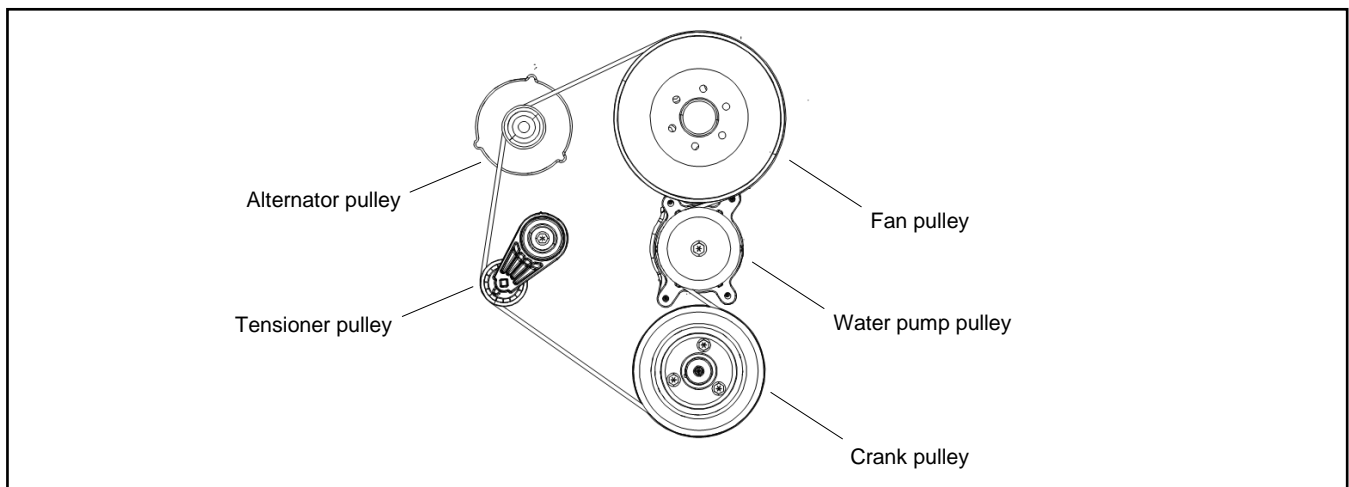

Figure 28 Drive Belt Diagram
3. Route a new drive belt following the diagram shown in Figure 28.